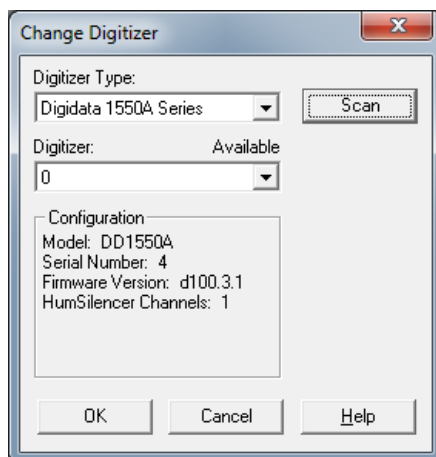

Figure 2-3: Configuration message changes after clicking **Scan**
4. Click the **Scan** button to detect the digitizer. The first detected digitizer is assigned **0** and listed as **Available**. The **Configuration** information changes from **Not present** to reporting the selected digitizer model number, serial number, firmware version, HumSilencer channel availability (1 = available), and the **OK** button is enabled (Figure 2-3).